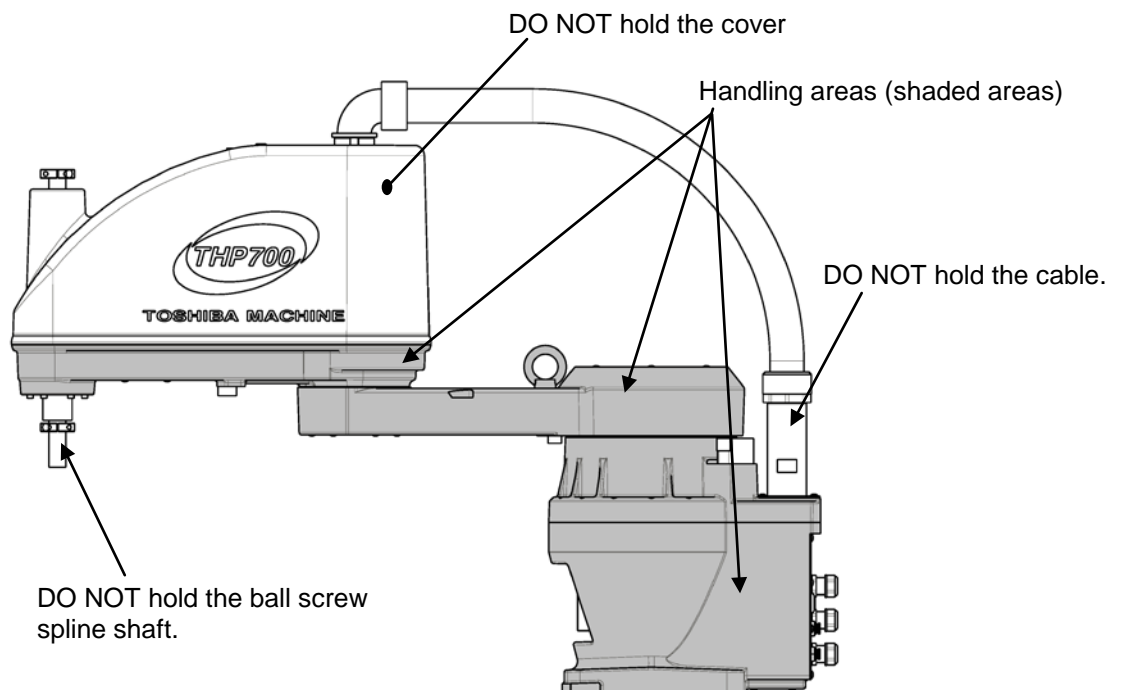

Fig. 2.4 Lifting up the robot
- When lifting up the robot by workers, hold the locations (shaded areas) by hands as shown in Fig. 2.4. If the arm 2, cover or ball screw spline shaft is held by hands, an unusually large force is exerted, resulting in a malfunction.
- The work should be performed by two (2) or more workers.